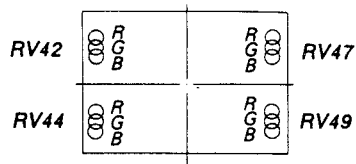

Fig. 1-25.
- Adjust RV42, RV44 and RV47, RV49 on the DC board to coincide with the R, G and B dots as shown in Fig. 1-25.